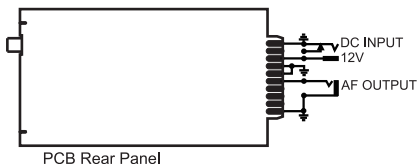

Fig. 9
V. Golden Finger Wiring. Fig. 9